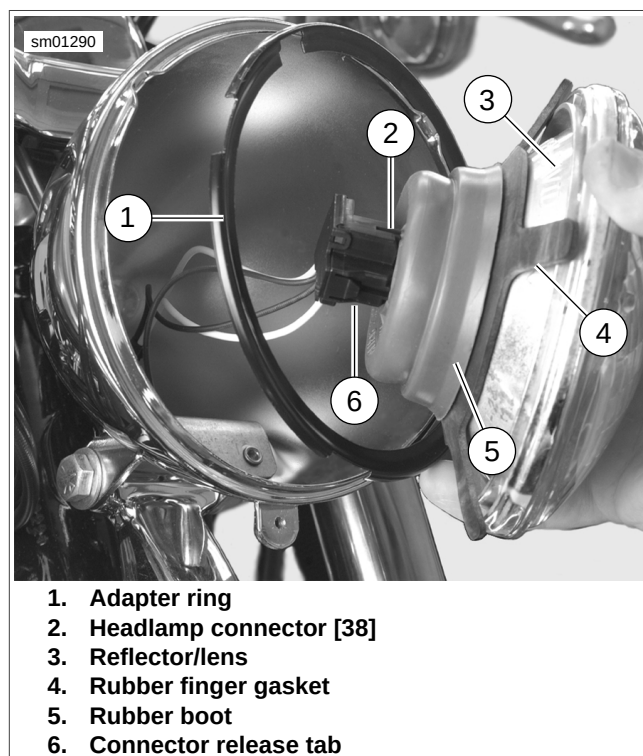
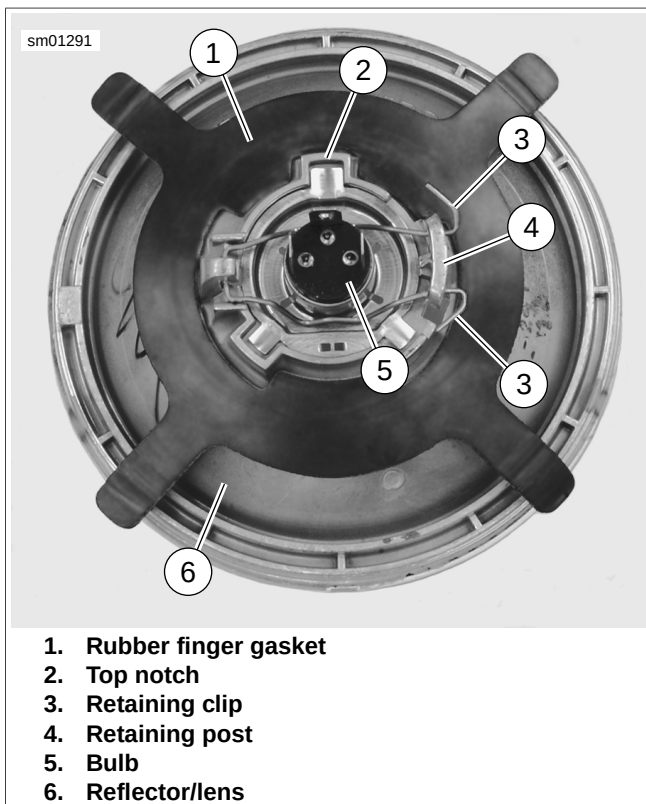

Figure 6-53. Remove Headlamp
Figure 6-54. Headlamp Assembly
3. See Figure 6-53. Hold headlamp reflector/lens (3) and compress release tabs (6) on sides of headlamp connector [38] (2). Pull connector from spade terminals.
4. Remove headlamp reflector/lens and metal adapter ring (1).
5. Pull rubber boot (5) from rubber finger gasket (4) on back of reflector/lens.
6. See Figure 6-54. Press ends of retaining clip (3) to unhook from notched retaining post (4).
7. Pivot retaining clip back and remove bulb (5).